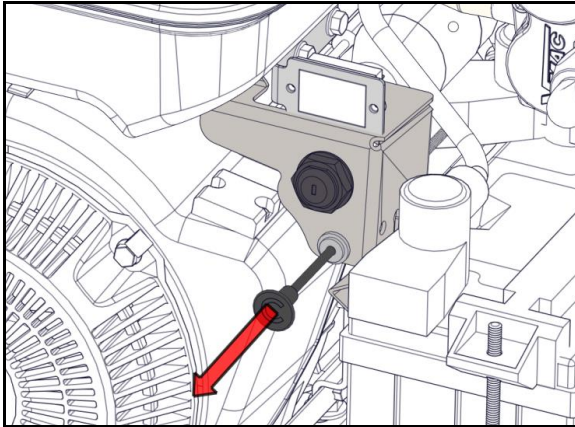

Figure 20 - choke
- 1) Pull the choke to the “ON” position (Figure 20).